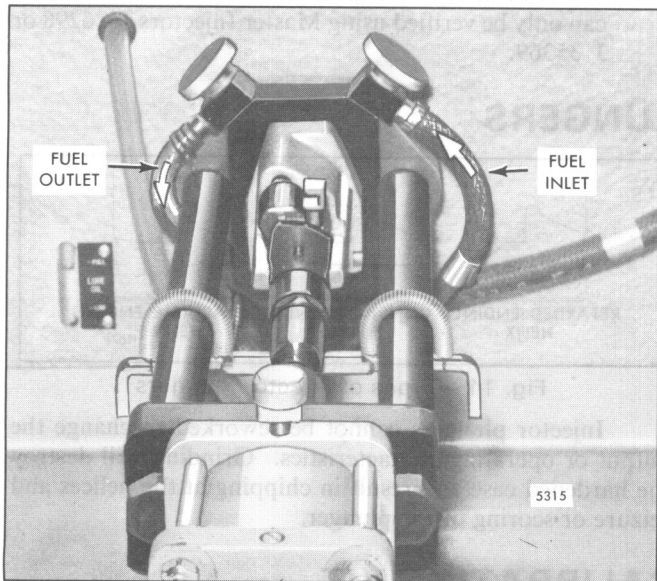

Fig. 8 – Position of Calibrator Fuel Flow Pipes
1. Before testing injector output, be sure calibrator test oil is supplied to the injector fitting located over the rack. To change the flow from the calibrator, exchange the positions of the braided and the clear fuel lines (Fig. 8).